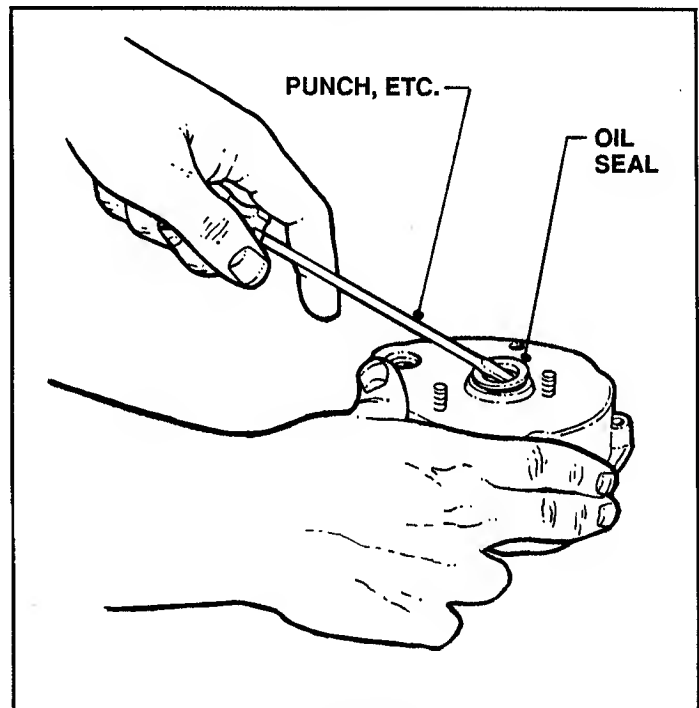

FIGURE 4.15
- (a) Pry faulty oil seals out of recess in right and left housings with a punch or other suitable tool without damaging seating surfaces. See Figure 4.15.